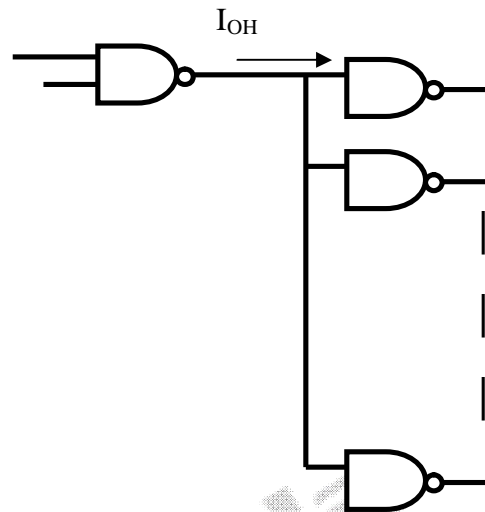

Figure 6 Fan out of logic gate is decided by number of loads connected to output of gate of same logic family
10. **Fan out:** It specifies the number of standard loads that the output of the gate can drive without affecting its normal operation. A standard load is usually defined as the amount of current needed by an input of another gate in the same family as shown in Figure 6. Sometimes, the term *loading* is also used instead of *fan out*. This term is derived from the fact that the output of the gate can supply a limited amount of current above which it ceases to operate properly and is said to be overloaded. The output of the gate is usually connected to the inputs of similar gates.